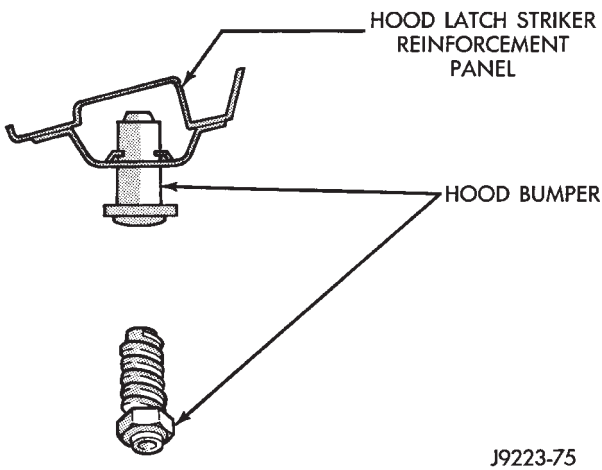

Fig. 96 Hood Bumper
- (1) If hood is low to the cowl panel, insert shims between the hinge and hood at the rear hinge bolts.
- (2) Adjust the hood bumper (Fig. 96) in or out to provide proper hood-to-fender height alignment.